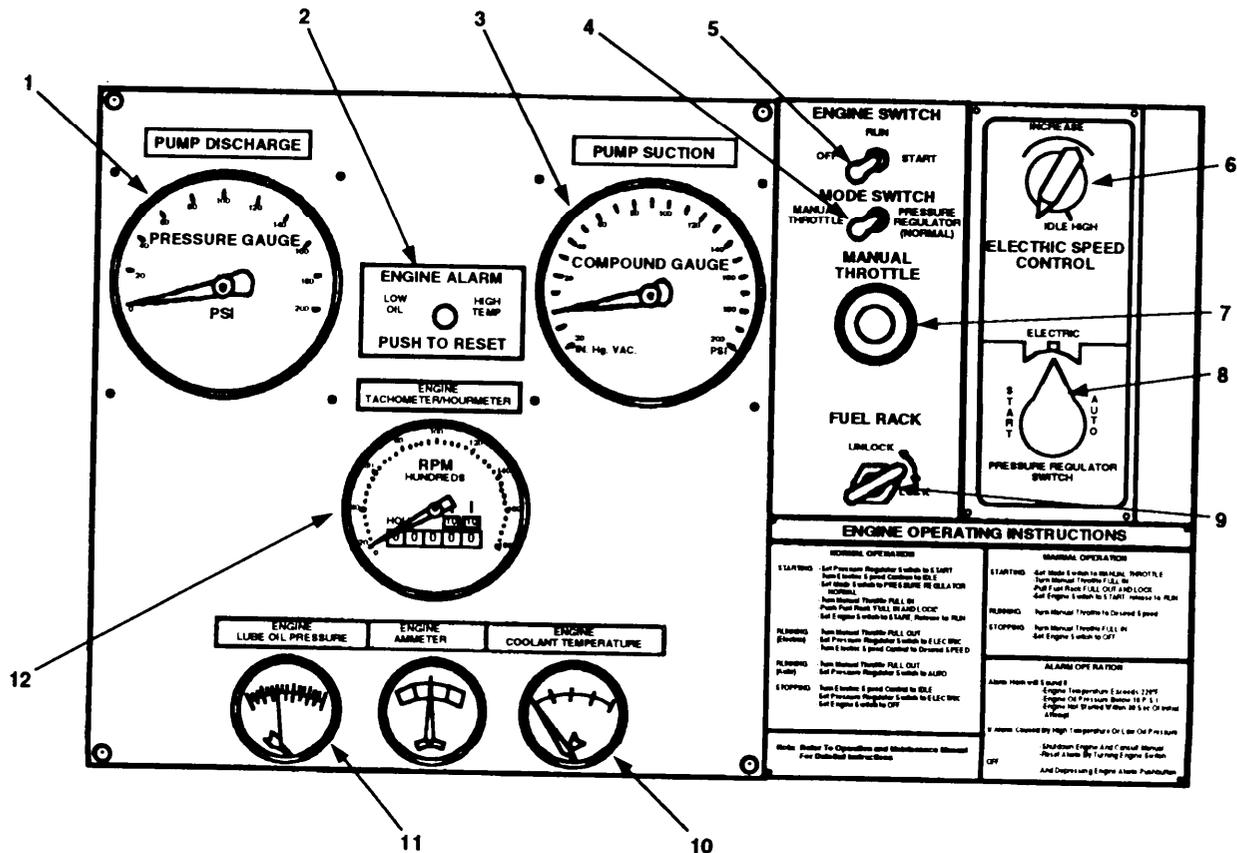

Figure 2-20. Model 609-A Control Used for Electric Manual and Electric Automatic Operation.
- k. To stop engine, turn MANUAL THROTTLE (6) clockwise to fully in position. Let engine idle for 2 or 3 minutes. Push engine switch (5) left to OFF position. Engine will shut down.
- l. Turn FUEL RACK handle (7) counterclockwise and release.
2.5.1.2 Electric Manual Mode. Before starting pumping assembly 609-A, make sure that the pump has been primed (paragraph 2.4.1 or 2.4.2) . Refer to Figure 2-20 and start and operate Model 609-A as follows:
- b. Turn PRESSURE REGULATOR SWITCH (8) counterclockwise to START position.
- c. Turn ELECTRIC SPEED CONTROL (6) counterclockwise to IDLE position.
- d. pull out MODE SWITCH (4) and set to PRESSURE REGULATOR (NORMAL) Position.
- e. Turn MANUAL THROTTLE (7) clockwise until it is fully in.
- f. Turn FUEL RACK handle (9) left to UNLOCK position. Push handle fully in and turn right to LOCK position.